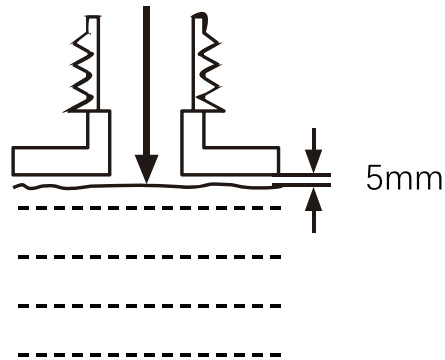

Fig.7
4. Add suitable fuel into the fuel tank. Leave a minimum 5mm of space between the top of the fuel and the inside edge of the tank to allow for expansion (Fig. 7).